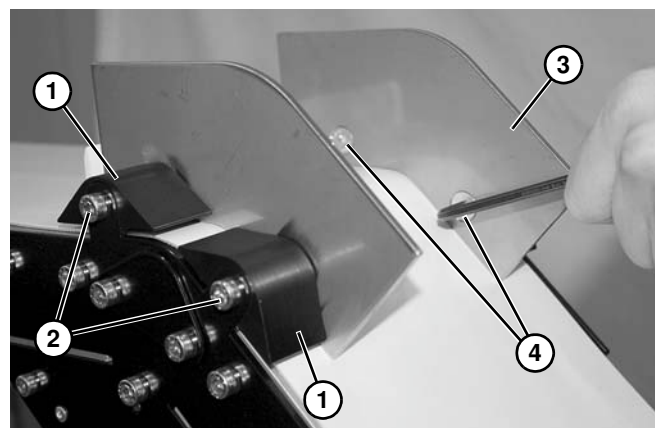

Figure 77
3. Install spacers (**Figure 77, item 1**) on both sides of conveyor with screws (**Figure 77, item 2**).
4. Install guard (**Figure 77, item 3**) on both sides of conveyor with screws (**Figure 77, item 4**).